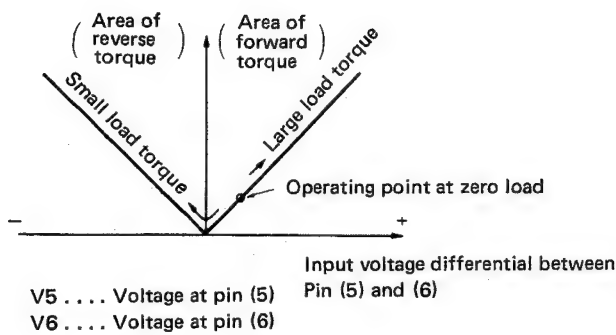

Fig.10-2 PA2008 absolute value amp input/output response.
10. At absolute value amp PA2008, the input signal is compared with the reference voltage (Vref) from pin ⑫ of PA2007 and the motor winding current is generated according to the voltage difference.
11. Since the speed does not reach the rated speed when the motor is started, the voltage is lower than the reference voltage (Vref; 5.15V). Therefore, the absolute value amp gives a command which generates a positive torque to the rotating direction command circuit so the motor speed is raised. Then the motor gradually reaches constant speed. (See Fig. 10-2.) (When the motor speed is faster than the rated speed, since the voltage is higher than the reference voltage, the absolute value amp applies reverse braking torque to the rotating direction command circuit so the motor speed drops. Then the speed returns to the rated speed.)